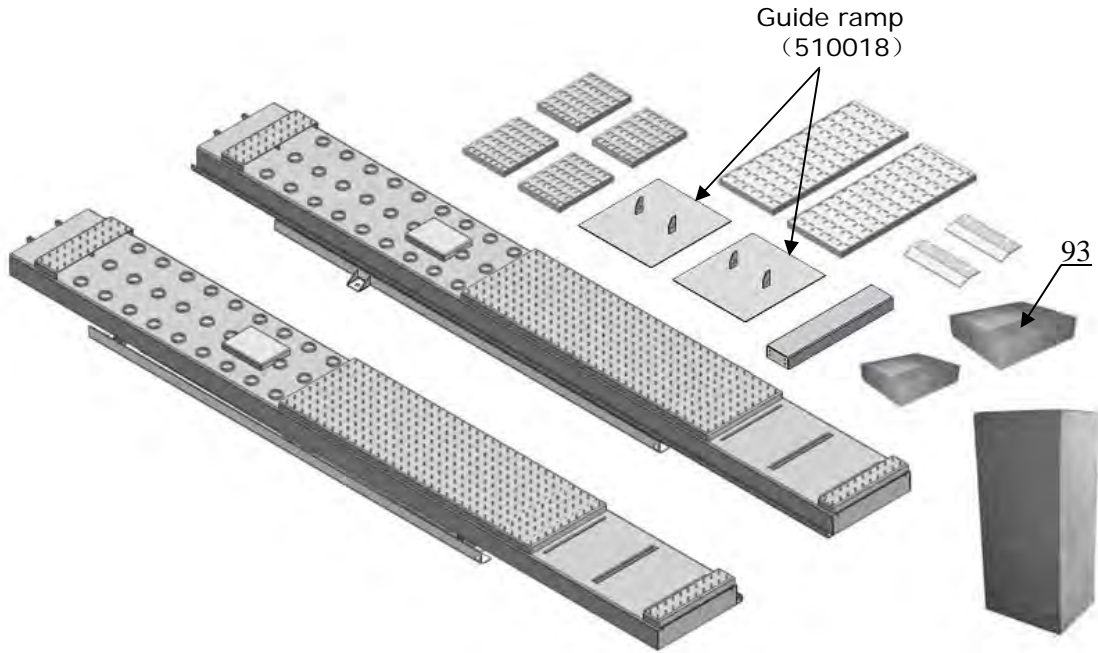
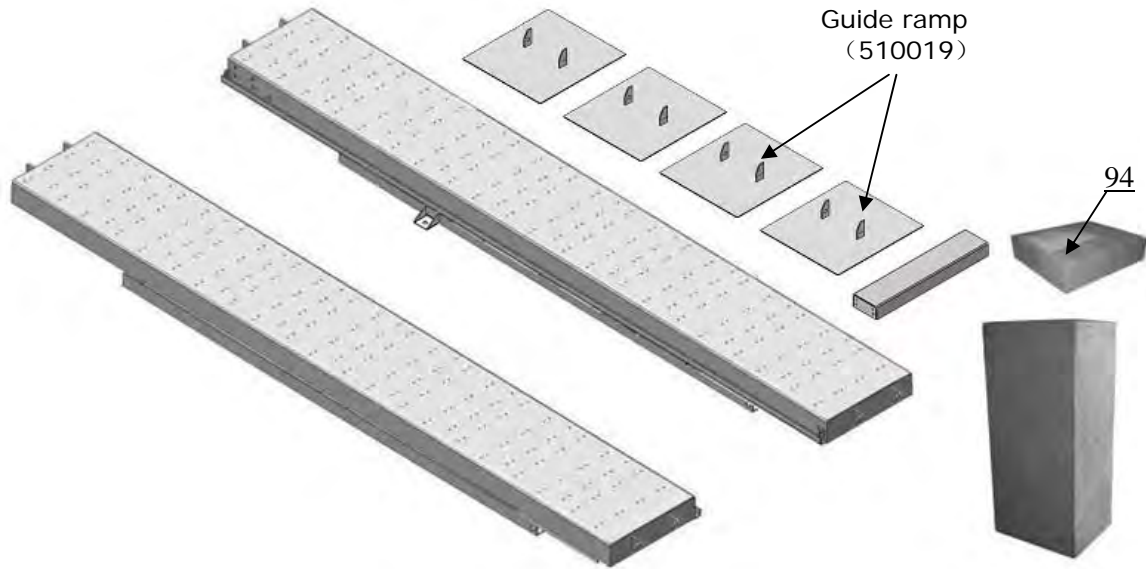

Fig. 13
Fig. 14
2.2 Parts for lift of flush mount installation (See Fig.13, Fig.14)